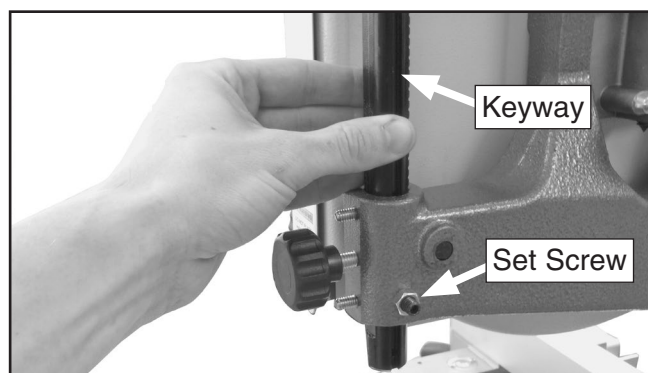

Figure 6. Installing extended guide post.
14. Insert the extended guide post into the housing, as shown in **Figure 6**, making sure the keyway is aligned with the set screw.